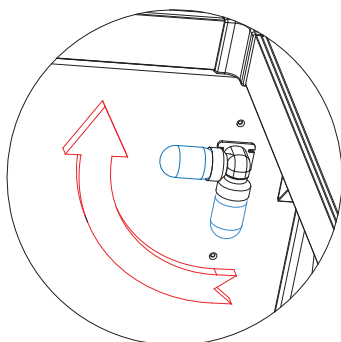

Fig 9-18
3. Turn the socket about 90 degrees. (Fig 9-18)